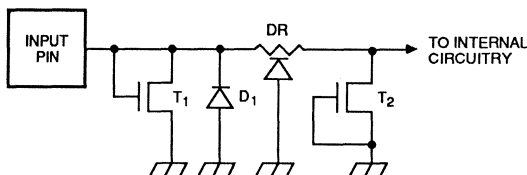

Figure 7. ESD Input Protection Circuit
Figure 7 gives an example of an ESD input protection circuit used in CMOS zero-power ZPAL products. It consists of a thick field oxide transistor (T1), a large-area diode (D1), a distributed diode-resistor (DR) in substrate, and a thin gate oxide transistor (gate-grounded T2) with a low breakdown of approximately 12 V. Large positive input voltages cause T1 to turn on, which will conduct the ESD current to ground. When the voltage between the drain and the source of T2 exceeds 12 V, T2 will break down to further discharge the ESD current. The distributed resistor acts as a current limiter to protect T2 from destruction by too high a current